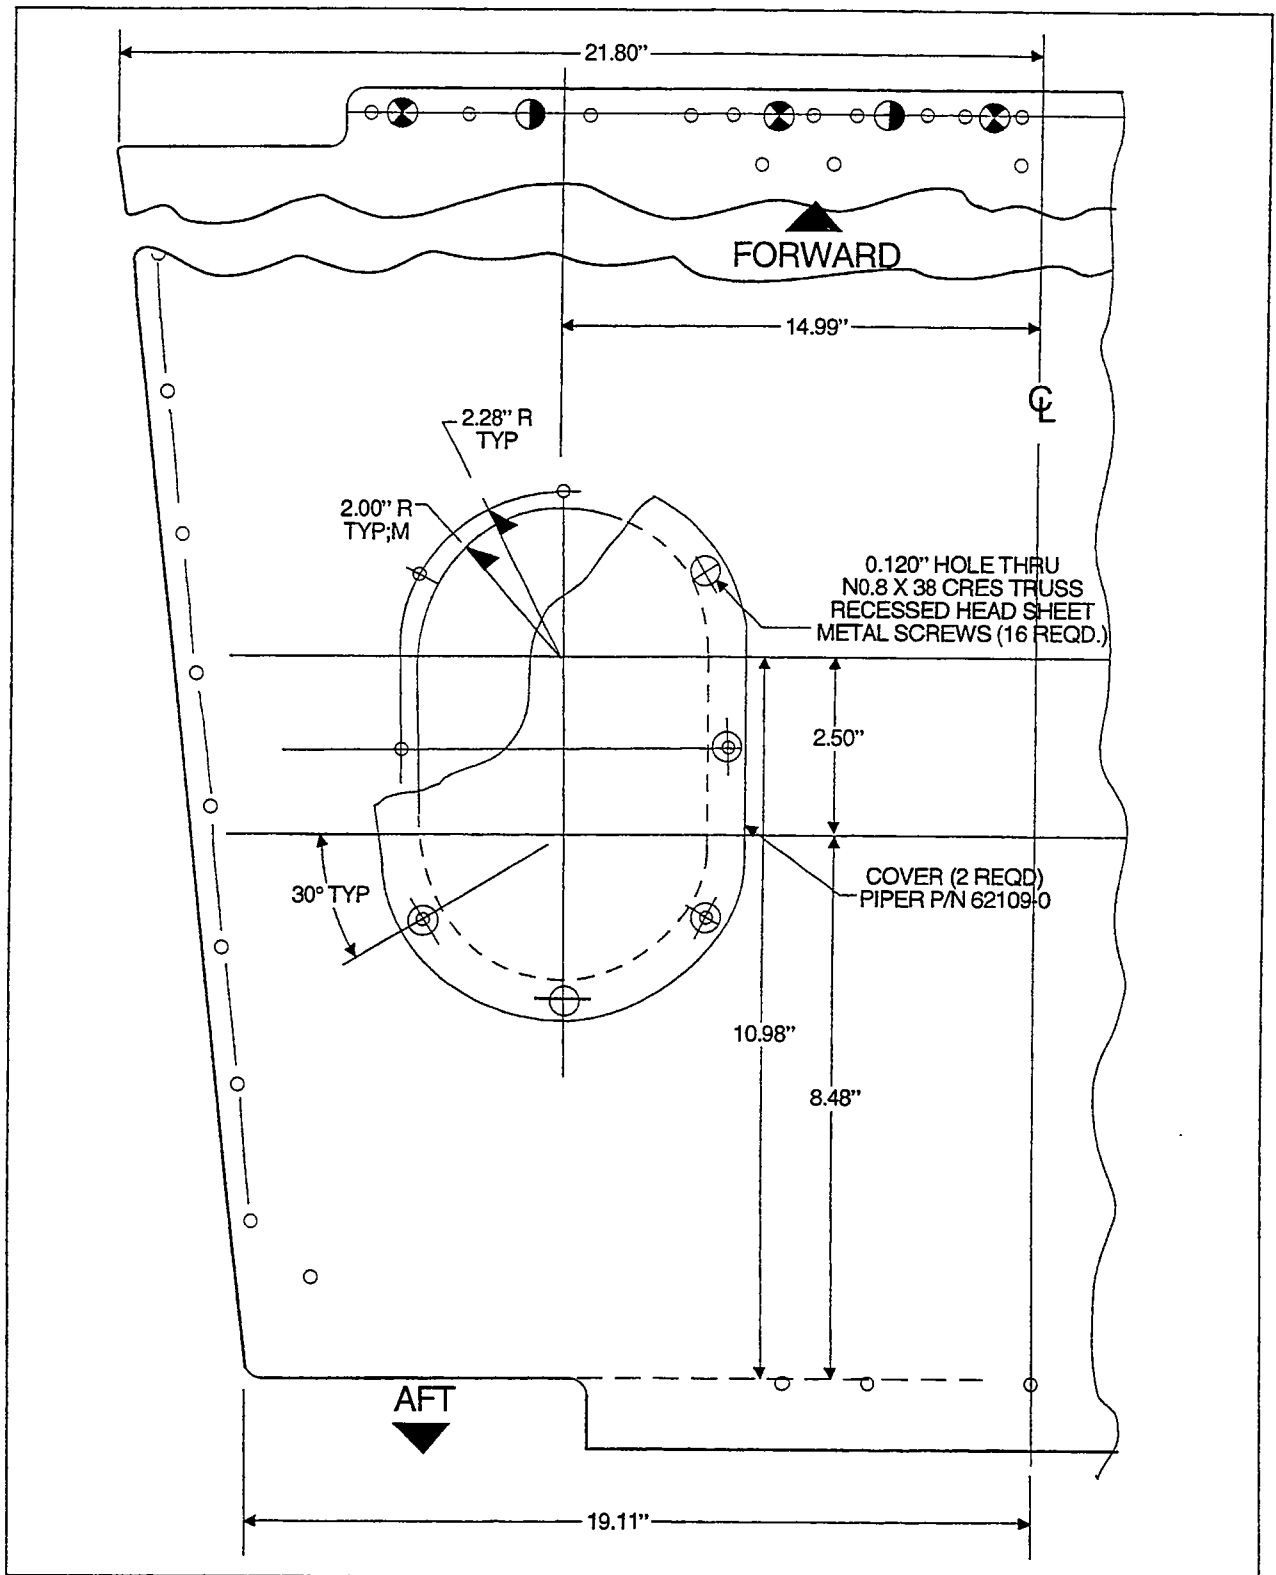

Figure 4-26. Baggage Compartment Inspection Holes Cutout Details
#### b. Baggage Compartment Inspection Holes Fabrication Procedure. (Refer to Figure 4-26.)
While Figure 4-26 shows the hole in the left side of the baggage compartment, a similar hole is also cut out in the right side baggage compartment floor. Installation will require two each inspection access covers, P/N 62109-000.
- (1) Right side baggage compartment Royalite plastic close out panel.
- (2) Rear close out panel.
- (3) Carpeting from baggage compartment floor.
- (c) Determine and mark a reference center line running through baggage compartment. Refer to Figure 4-26 for measurements.
- (i) There should now be two ovals, like the one in Figure 4-26, laid out on each side of the baggage compartment floor.